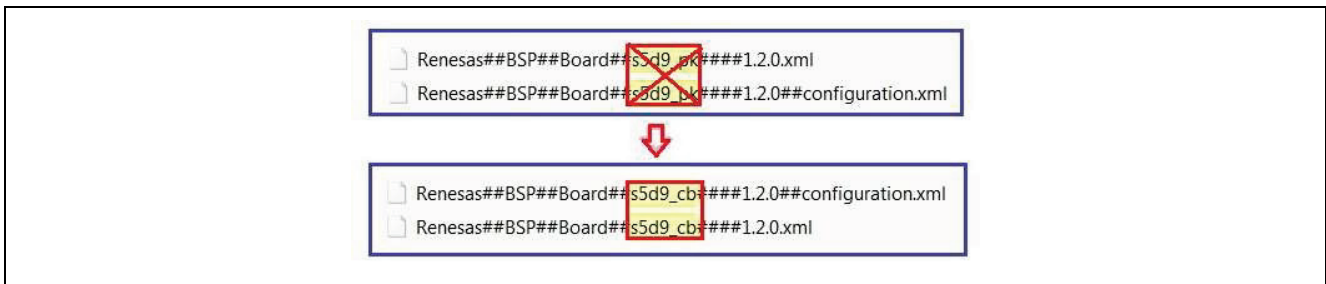

Figure 15. Replace the Existing BSP Name with Your BSP Name
- On the project folder in your workspace, under **module_description** subfolder, use the default Windows search function to replace the original board name such as S5D9_PK with a new board name, which is **S5D9_CB** in the current project as shown in Figure 15.
Make a copy of the original board files of PK-S5D9 and rename them with the new board name as shown in Figure 15.